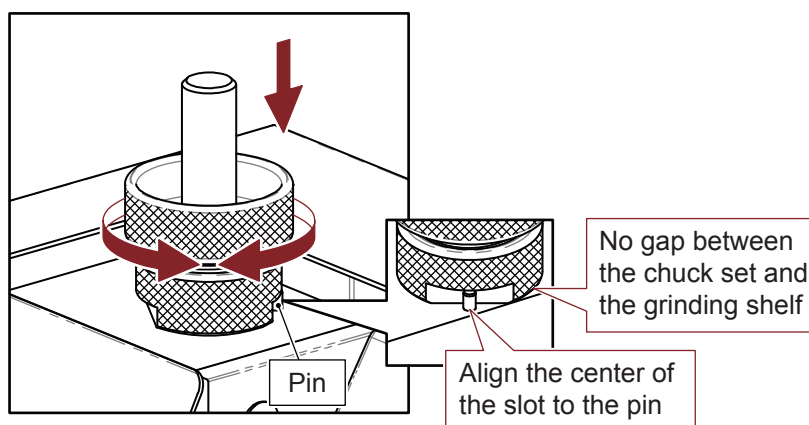

Fig. 8-2
2. Web Thinning (Fig. 8-2)
- ① Insert the chuck set into the web thinning grinding shelf, align the slot of clamping nut to the pin on the grinding shelf, push the chuck set gently and turn it clockwise and counterclockwise until the grinding noise stops.
- ② Take the chuck set out, turn it to the other side and grind the drill in the same way.